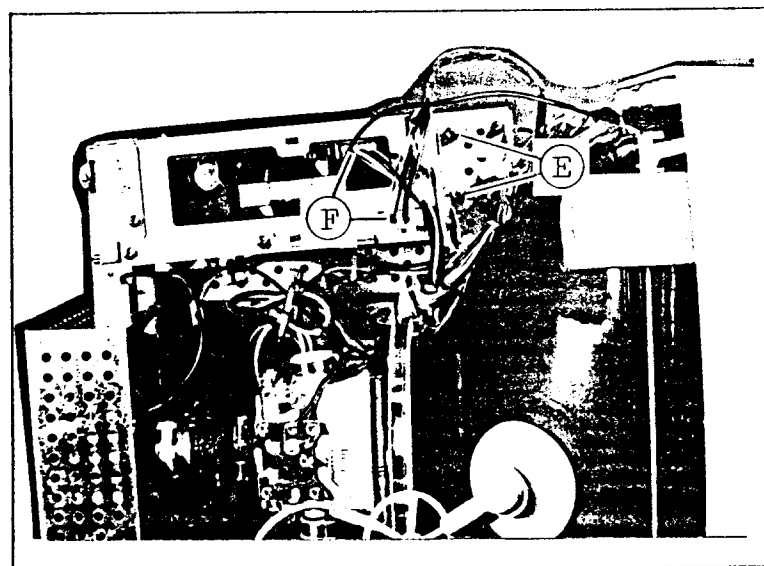

Fig. 5
- (2) Then remove the two screws marked (E) shown in Fig. 5.
- (3) Remove the two connectors marked (F) shown in Fig. 5.